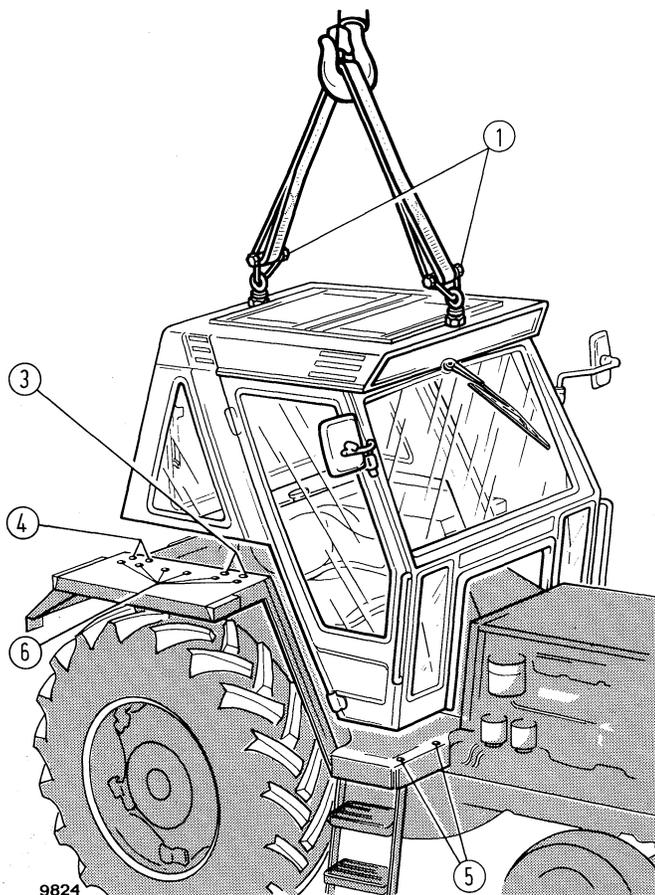

Fig.3 - Removal - installation of cab without platform
- Remove the two capscrews on the top of the cab, tighten the two hooks 292109 (1, Fig. 3) and connect to a hoist by means of a nylon sling 293769.
- Remove the two linings from the centre pillars and take off the four inner capscrews securing cab to fenders (3, Fig. 3).
- Four fender capscrews (4), four front capscrews (5) acting from bottom of platform and twelve side capscrews (6) acting from inside each fender.